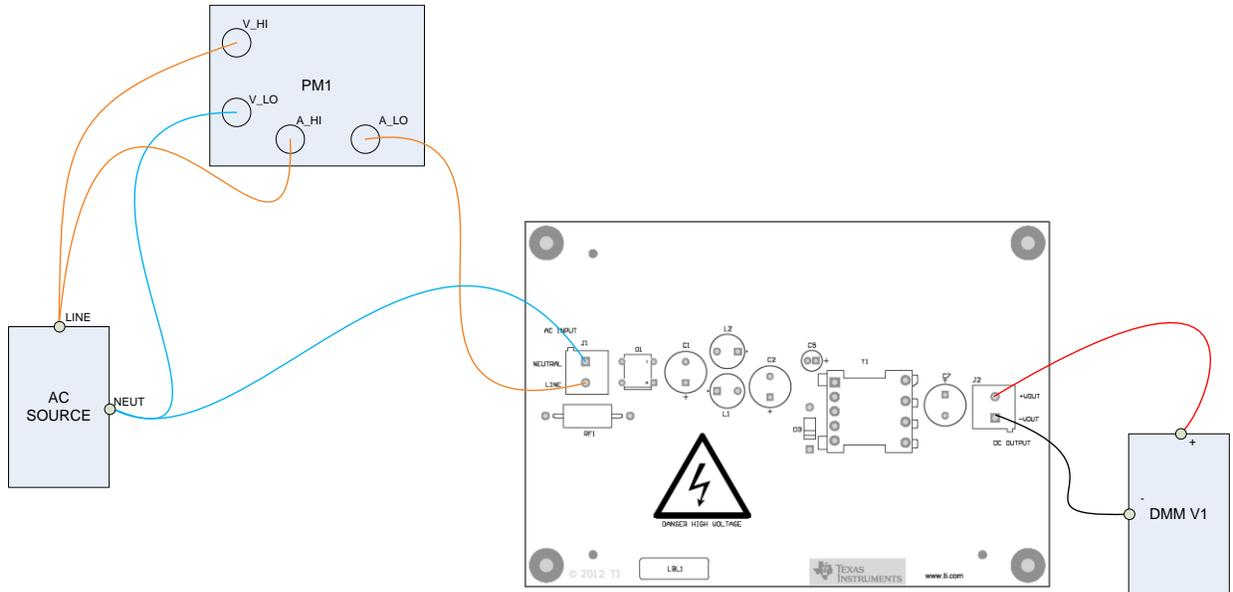
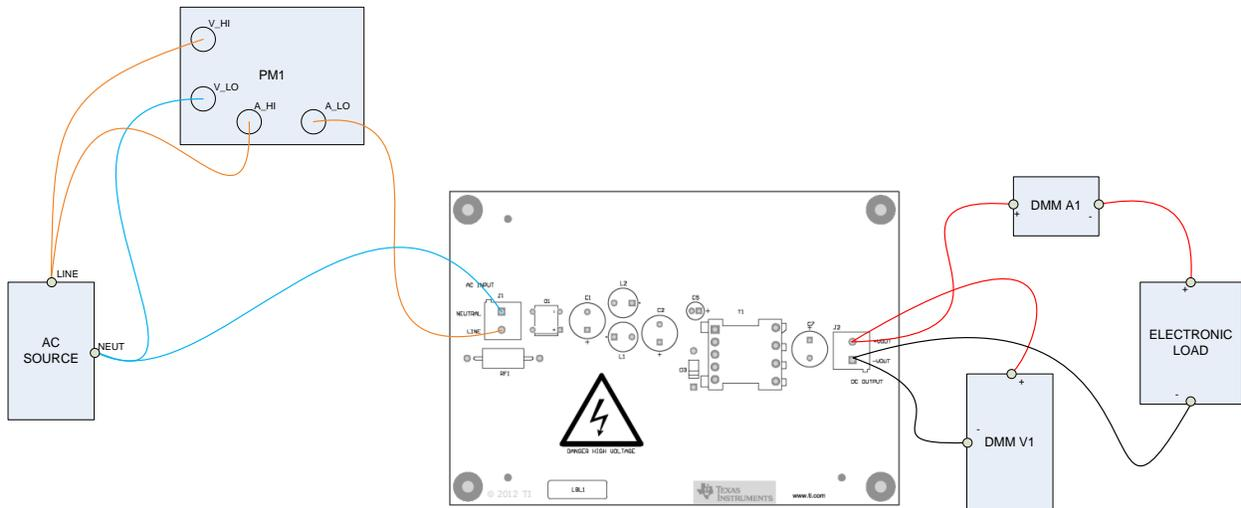

Figure3. UCC28910FBEVM-526 recommended test set up without a load.
Figure4. UCC28910FBEVM-526 recommended test set up with a load.
Figure 3 shows the equipment set up when measuring the input power consumption during no load. During the no-load test, the power analyzer should be set for long averaging in order to include several cycles of operation and an appropriate current scale factor should be used. Figure 4 shows the basic test set up recommended to evaluate the UCC28910FBEVM-526 with a load.
See Figures 3 and 4 for recommended test set ups.
- **AC Input Source:** The input source shall be an isolated variable AC source capable of supplying between 85V_{rms} and 265V_{rms} at no less than 15W and connected as shown in Figures 3 and 4. For accurate efficiency calculations, a power meter should be inserted between the AC source and the EVM. For highest accuracy, connect the voltage terminals of the power meter directly across the power source. *(Connecting the voltage terminals directly to the EVM will result in a small current error. This is very significant when measuring no load power)*
- **Load:** For the output load, a programmable electronic load set to constant current mode and capable of sinking 0 to 1.5A_{DC} at 10V_{DC} shall be used. For highest accuracy, V_{OUT} can be monitored by connecting a DC voltmeter, DMM V₁, directly across the +V_{out} and -V_{out} terminals as shown in Figure3 and Figure4. A DC current meter, DMM A₁, should be placed in series with the electronic load for accurate output current measurements.
- b. For operation with a load, as shown in Figure 4, set the electronic load to constant current mode to sink 0A.
1. Use the test set up shown in Figure 3
- a. Use the test set up shown in Figure 4